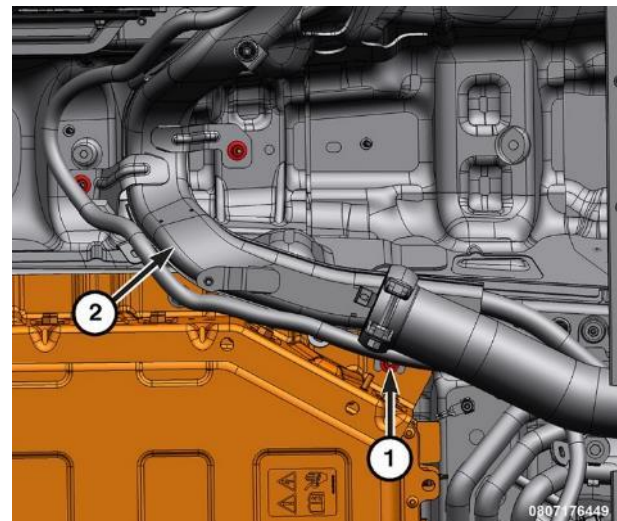

Figure 47 – HV Battery - Primary
31. Remove the fasteners that secure the HV battery harness to the body and position aside (Figure 47).
59. Install the fasteners that secure the HV battery harness trough to the body. Tighten the nuts to 5 N·m (44 In. Lbs.) (Figure 47).